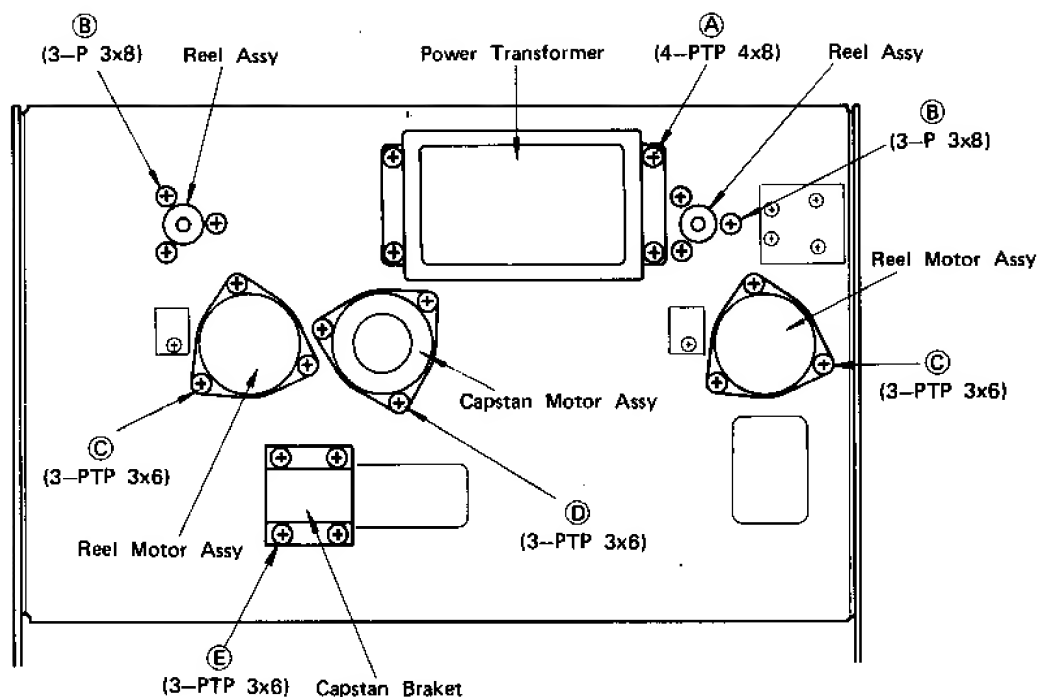

Fig. 6-7
10) Power transformer (Fig. 6-7)
- * Remove the four (A) screws.
11) Reel assembly (Fig. 6-7)
- * Remove the three screws (B) and the reel assembly can be taken out from the front side of the recorder.
12) Reel motor assembly (Fig. 6-7)
- * Remove the three screws (C) and the reel motor assembly can be taken out.
13) Capstan motor assembly (Fig. 6-7)
- * Remove the three (D) screws and the capstan motor assembly can be taken out.
- * Remove the four (E) screws, shown in Fig. 6-7, and after removing the capstan shaft thrust bracket, replace the belt through the cutout at right of the bracket.